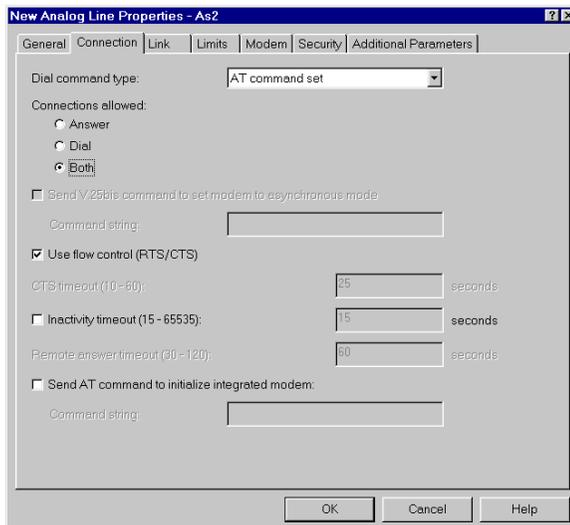

Figure 35. Setting the connection properties
- Click the **Connection** tab (Figure 35).